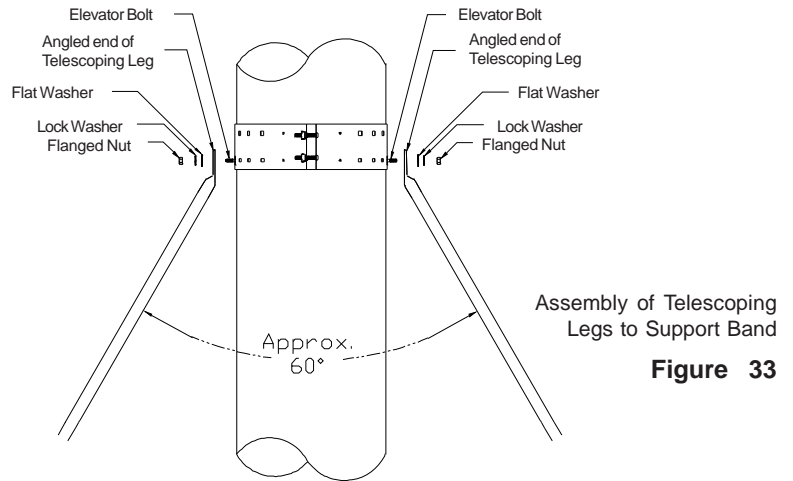

Figure 33
- G. Attach each of the telescoping legs (angled end) to the 2 elevator bolts on the Support Band with supplied washers and nut (see Figure 33).
- K. The two telescoping legs should form an angle of about 60° to give support to the chimney in all directions. The angle of the telescoping legs should not be more than 45° from horizontal when fastened to the roof (see Figures 33 & 34).